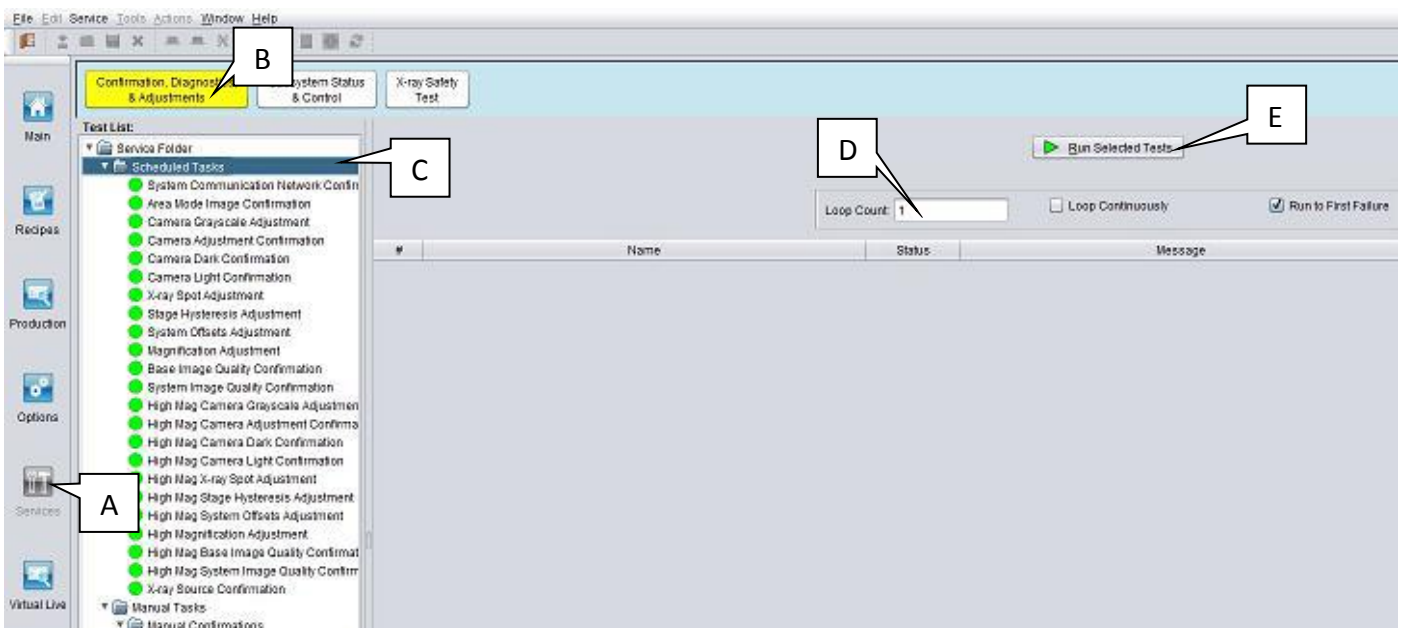

Figure 2 CD & A
4. Perform 1 loop full CDnA task to obtain latest log file. Go to Confirmation, Diagnostic and Adjustment tab and as show in Figure 2.